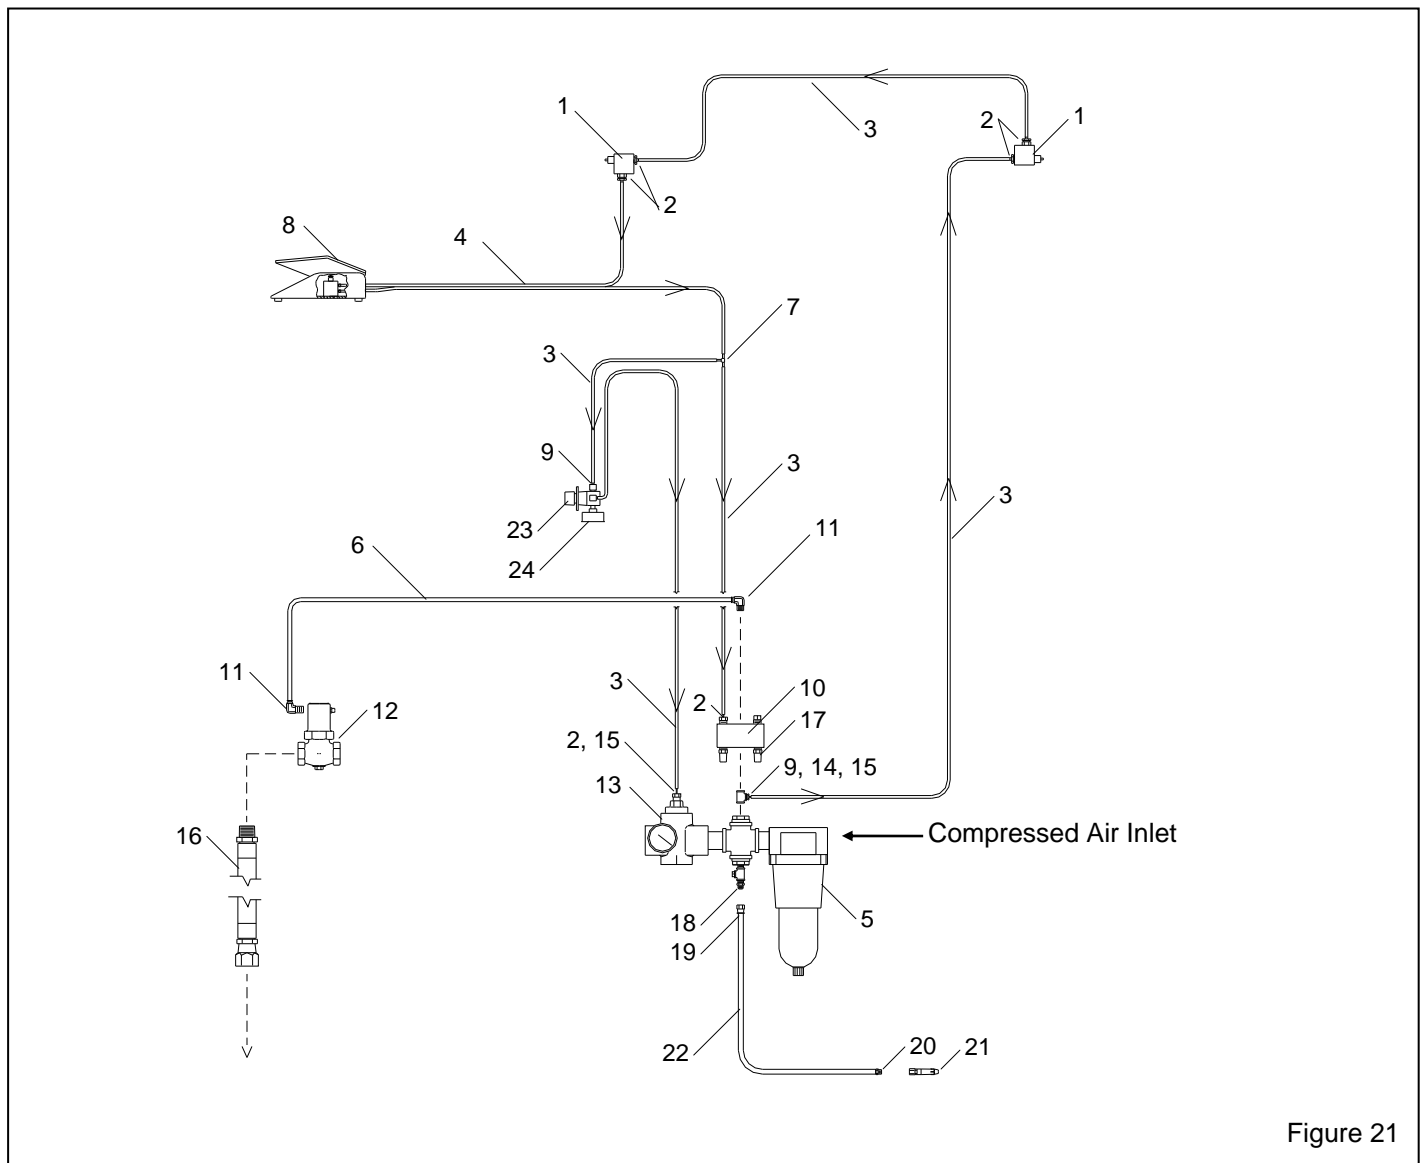

Figure 21
9.6 Plumbing Assembly, Figure 21